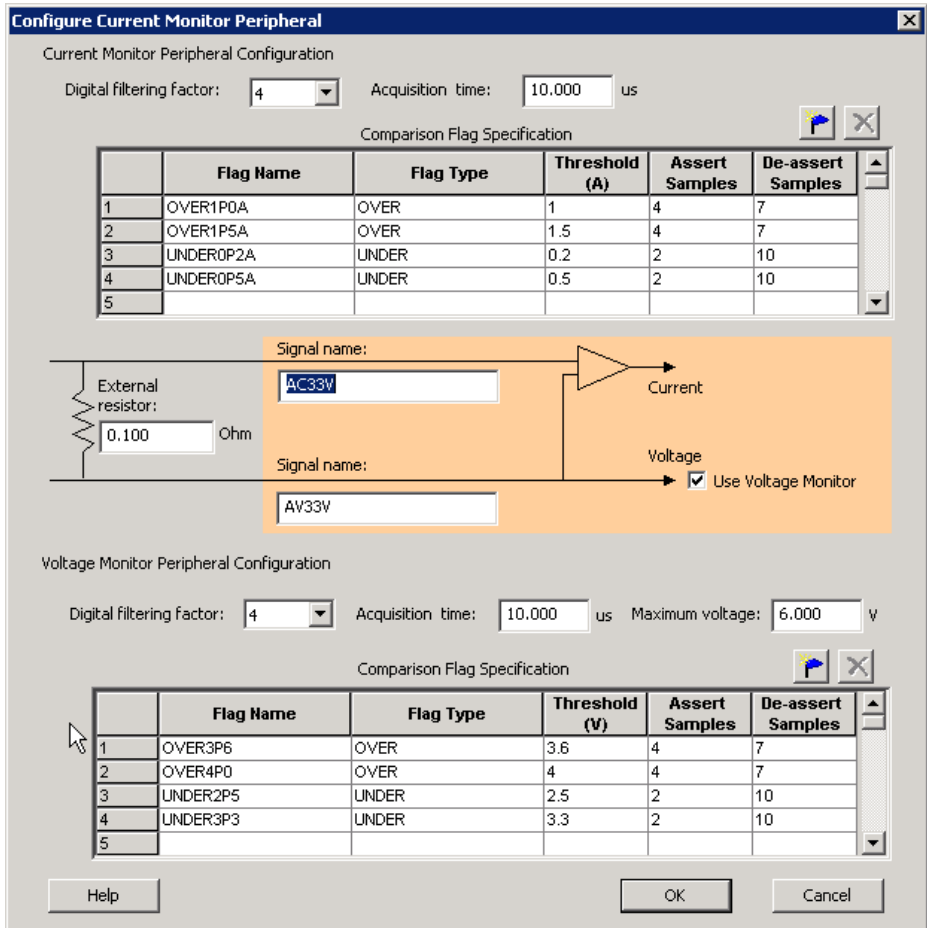

Figure 1-7. Current Monitor Configuration
6. Enter the following parameters, as shown in Figure 1-7 on page 13: